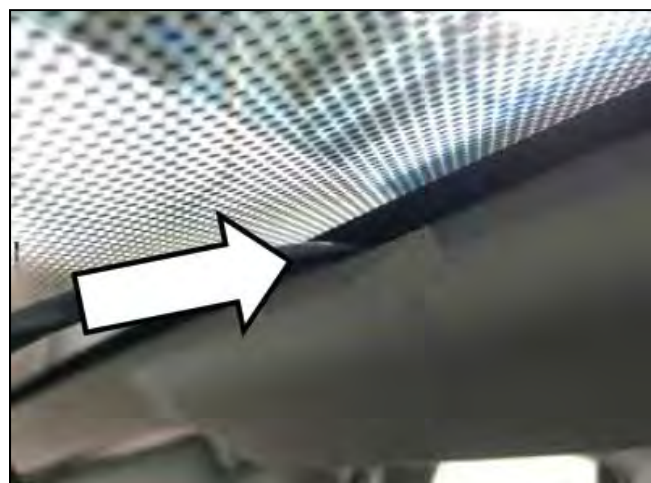

Figure 9
9. Route the mirror harness to overhead console opening as shown. See Figure 9.